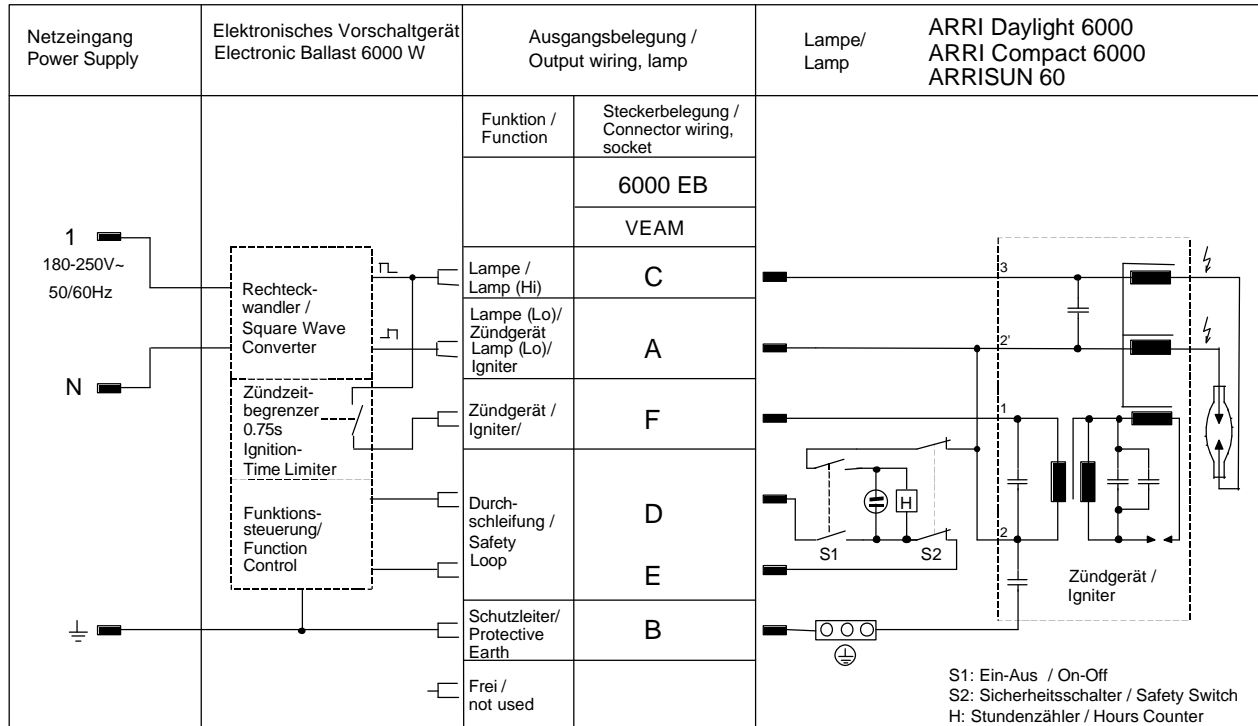

Fig. 1: Connector Wiring 6000 W
2.4 The Electronic Ballast must be switched off before connecting or disconnecting either head or supply cable. Do not use other than original ARRI cables and connector with permitted cross section of the leads. The ballast is only suitable for specified ARRI luminaires (see fig. 1, page 9). Using other than original ARRI cables or luminaires may cause injury to the user as well and/or damage to the ballast.
3. Product Description The ARRI 6000 EB is part of an optimized lighting system along with all ARRI 6000W luminaires specified for operation with the EB (see fig. 1, page 9). It is suitable for both professional indoor and outdoor use (IP22 protection).